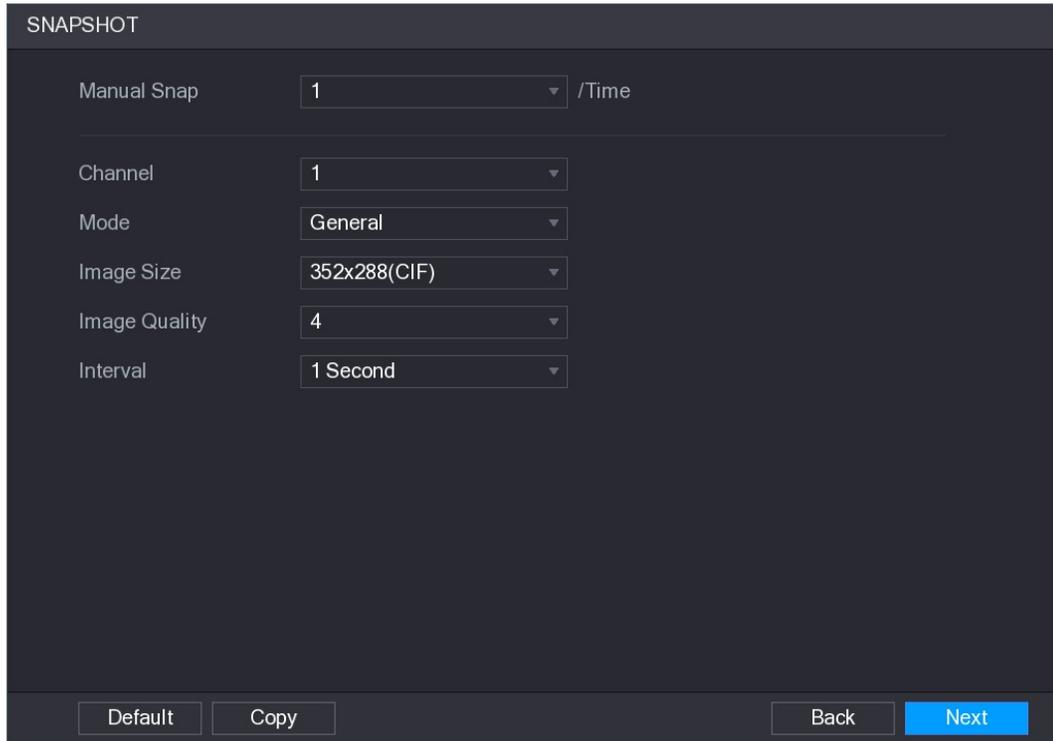

Figure 5-25
**Step 1** After you have configured the encode settings, on the **Encode** interface, click **Next**. The **SNAPSHOT** interface is displayed. See Figure 5-25.